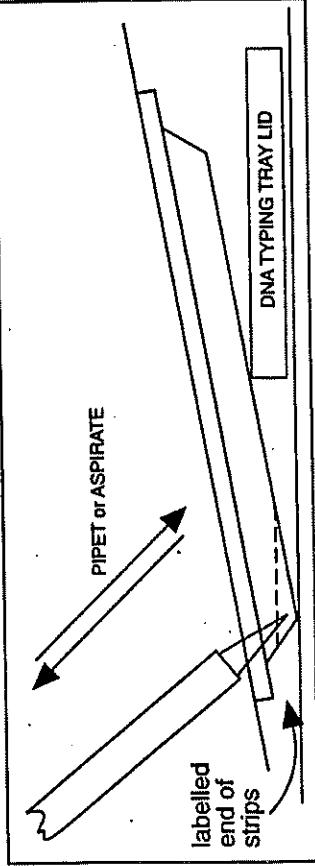

Figure 2. Handling solutions in DNA Typing Trays.
8.7 As shown in Figure 2, tilt the DNA Typing Tray towards the labelled end of the strips. The DNA Typing Tray lid turned upside down may be used as the solid support. Add 3 mL of pre-warmed Hybridization Solution to each well at the labelled end of each strip. Do not wet the remainder of the strip.
8.8.3 Withdraw 20 µL of amplified DNA and immediately add it below the surface of the Hybridization Solution in the well of the corresponding DNA probe strip (see Figure 2). If using the DNA Thermal Cycler 480, be sure to withdraw from the aqueous (bottom) layer.